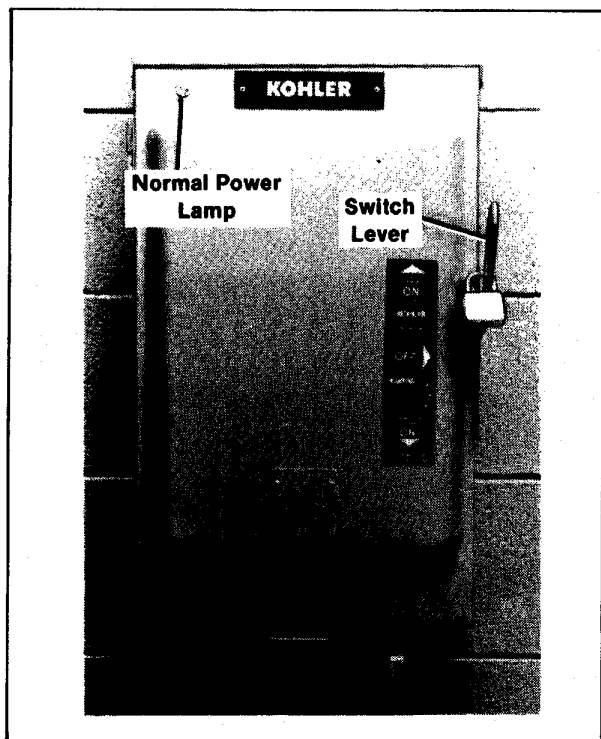

Figure 1-10. 200/100 Amp. Transfer Switch
- 3b. **200 Amp. Transfer Switch:** Remove padlock (if used) from switch lever and push lever up to NORMAL POWER ON position. Normal (utility) power is now connected to your house circuits. See Figure 1-10.